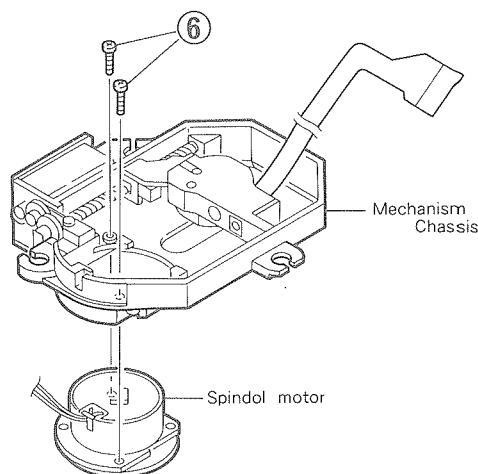

Fig. 5-9
■ Removal of spindle motor and pick-up unit (See Fig. 5-9 ~11)
4. Remove two screws ⑥ holding the motor as shown.
5. Remove one screw ⑦ holding the shaft and mechanism as shown.